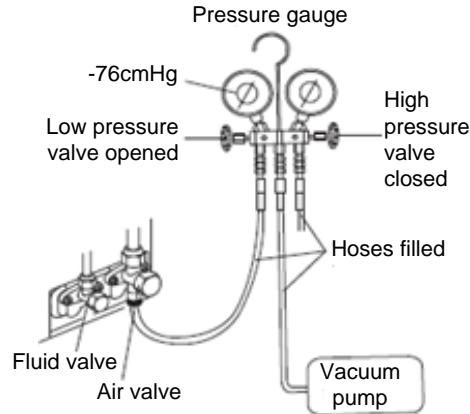

Figure 5-4 Vacuum pump connection diagram
(2) Vacuum pump:
- ① Connect the filling hose to the fluoride injection mouth of the air valve. Ensure that the valve cores of the air valve and fluid valve are tightly closed.
- ② Connect the joint of the filling hose to the vacuum pump, as shown in Figure 5-4.
- ③ Fully open the low pressure valve of the pressure gauge.
- ④ Start the vacuum pump to vacuumize the air for 20 minutes or more, and ensure that the pressure gauge pointer points to -1.0×10^5 Pa (-76cmHg). Close the low pressure valve, and stop running the vacuum pump. Wait 2 minutes. If the number indicated by the pressure gauge pointer does not rise, the vacuumization and piping are successful. If the number indicated by the pressure gauge pointer rises, it indicates that air is entering the system. In this case, check the piping for leaks, and vacuumize the air again.
- ⑤ Remove the filling pose from the air valve.
- ⑥ Fully open valve cores of the gas valve and fluid valve.
- ⑦ Tighten the valve caps of the air valve and fluid valve, and the fluoride injection mouth nut.
- ⑧ Tighten the valve caps, and then use a leak detector or soapy water to check whether the pipes for connecting the outdoor unit and the water tank leak.